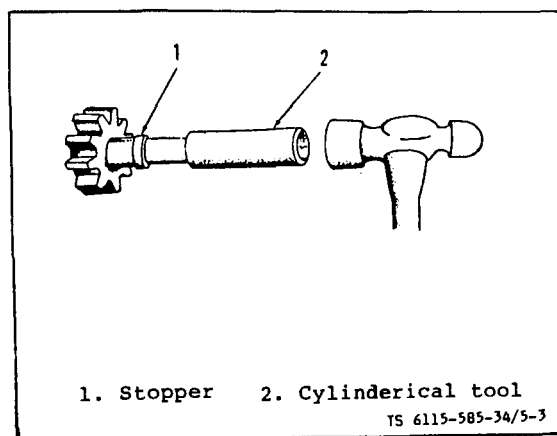

Figure 5-3. Pinion Gear Stopper Removal
(1) Remove nut (1) and lockwasher (2) from solenoid (13). Remove nut (3) and lockwasher (4) from brush assembly (21) terminal. Tag and remove lead (5). Remove nut (6) and lockwasher (7) from lower solenoid terminal, and loosen field coil connector (8).
(2) Remove cutter pin (9) and pin (10) from yoke (32). Remove screws (11), lockwasher (12) and remove solenoid switch (13).
(3) Remove through bolts (14), lockwasher (15) and remove back plate assembly (16) and thrust washer (27). Remove nut (17) and lockwasher (18) from brush assembly (21) terminal. Lift brush springs (20) and remove brush assembly (21). the insulating washer set (19) from brush assembly (21). With brush spring raised, remove other brushes (26) from brush holder (24). Remove screws (22), lockwashers (23) and remove brush holder (24).
(4) Remove retainer (29), boot (30), pin (31) and separate pinion housing (28) and frame assembly (25). Do not lose thrust washer (27).
(5) Remove yoke (32) and remove armature (33) and drive assembly (35). Remove lock ring and stop (34) by forcing stop toward armature until lock ring becomes accessible. See figure 5-3. Remove lock ring and stop (34), and drive assembly (35) from armature (33). Do not disassemble drive assembly.
(6) Remove bearing (36) by pressing from pinion housing (28).
(10) Remove lever (30) and gear (31).
(11) push stopper (33) towards front bracket to release retaining ring (32). See figure 5-3. Remove retaining ring (32), stopper (33), pinion gear (34) and spring (35).
(12) Remove over running clutch (36) from the front bracket assembly (37).